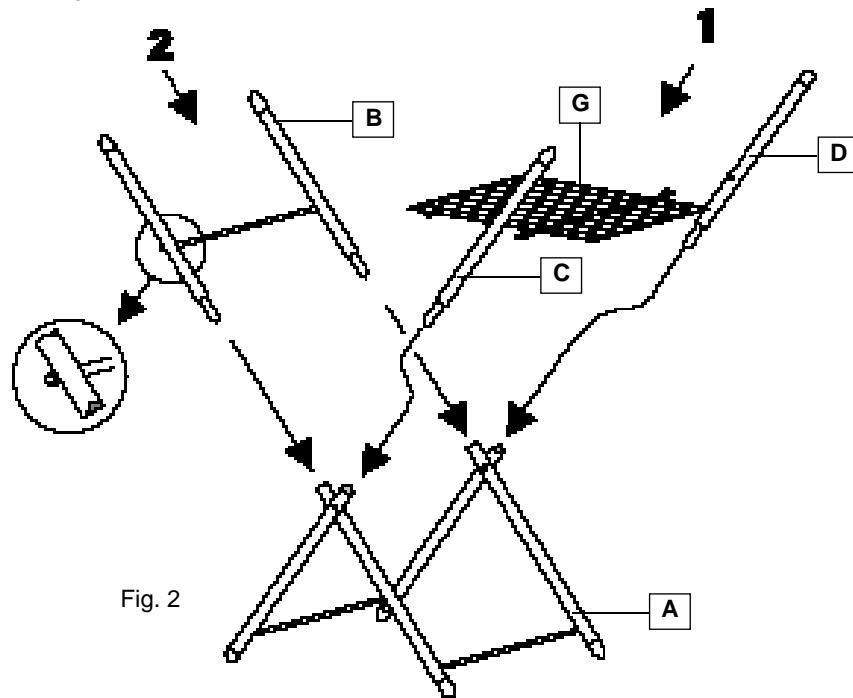

Fig. 2
- 3) Insert the outer stick B in its proper housing on the stand's legs A, being careful that the juncture point is positioned as shown in fig. 2.